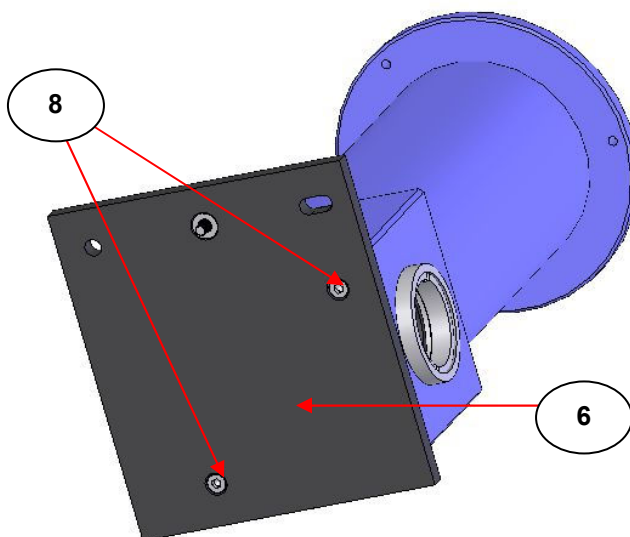

Fig 3. Underside View of GS21525 Vacuum Jacket Showing Benchmark™ Adapter Plate Fixing Screws.
An alternative way to mount the VT Cell accessory is to use a standard 3" x 2" slide plate mount (7) on the vacuum jacket. To make use of the slide plate mount, the Benchmark™ adapter plate (6) must be removed from the vacuum jacket. This is achieved by undoing the two fixing screws (8) on the underside of the vacuum jacket (see Fig 3.)